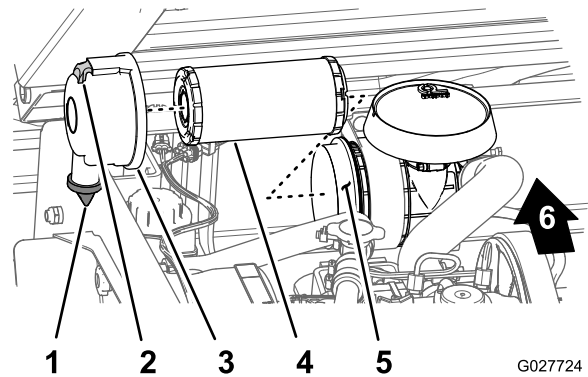

Figure 34
2. Check the air-cleaner body for damage which could possibly cause an air leak (Figure 34).
3. Pull the latch outward and rotate the air-cleaner cover counterclockwise (Figure 34).
5. Gently slide the air-filter element out of the air-filter housing (Figure 34) to reduce the amount of dust dislodged.
1. Clean the dirt ejection port located on the air-filter cover (Figure 34).
2. Remove the rubber outlet valve from the cover, clean the cavity, and replace the outlet valve (Figure 34).
3. Insert the air-filter element into air-filter housing by applying pressure to the outer rim of the element to seat it into the air-filter housing (Figure 34).
4. Align the air-cleaner cover with the air-cleaner housing with the the rubber outlet valve in a downward position—between approximately 5 to 7 o'clock when viewed from the end (Figure 34).
5. Secure the cover to the housing with the latches (Figure 34).